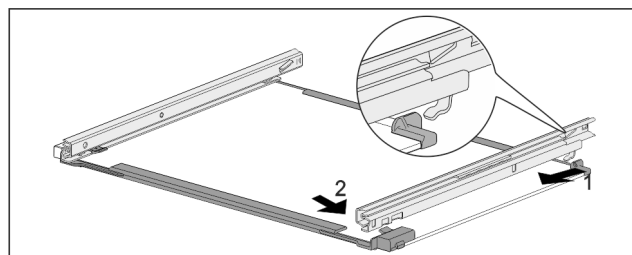

Fig. 111 Glass shelf with rails
- Hook in rail at the back. Fig. 111 (1)
- Hook in rail at the front. Fig. 111 (2)